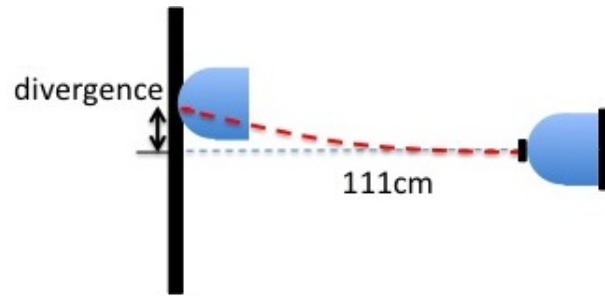

Figure 24: Setup for measuring divergence per unit distance.
4. Using black tape, demarcate a start and finish line on the table, such that the lines are parallel, and exactly 111cm apart. The robot itself is 11cm deep, so when its rear is placed on the start line, it will need to travel exactly 1m (100cm) before stopping. Note: The finish line should be about 30cm to 50cm long. Using a straight edge and two small pieces of tape mark two points, representing a straight line that is perpendicular to the start and finish lines. (See Figure 24.) The first point should be on the finish line. The second, should be 11cm from the start line, when the nose of the robot will be when the rear of the robot is aligned with the start line. Note: the tape marks should be as small as possible.